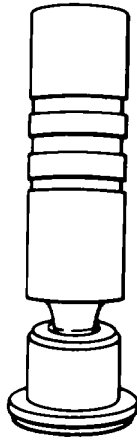

Figure 214.
11. Inspect steel piston body If any galling Is apparent or If any Irregularities can be felt, the piston must be discarded. If damage Is present, check corresponding cylinder block bore (40) for similar damage See Fig. 214.